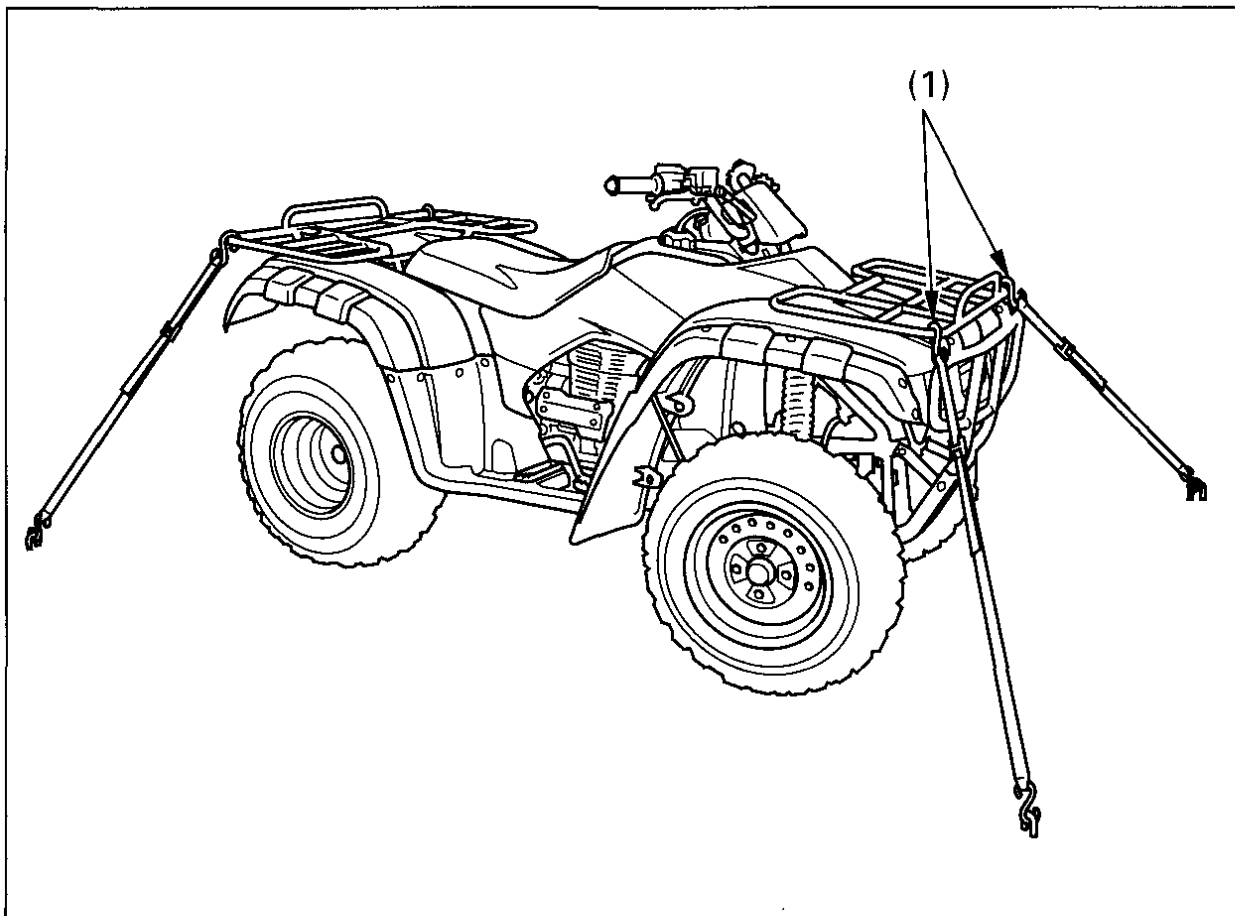

Fig. 4-40 Points to secure
3. Secure the vehicle with "tie downs" in the areas shown (Fig. 4-40). Suitable "tie downs" are available from your Honda dealer. Ordinary rope is not recommended because it can stretch under load.